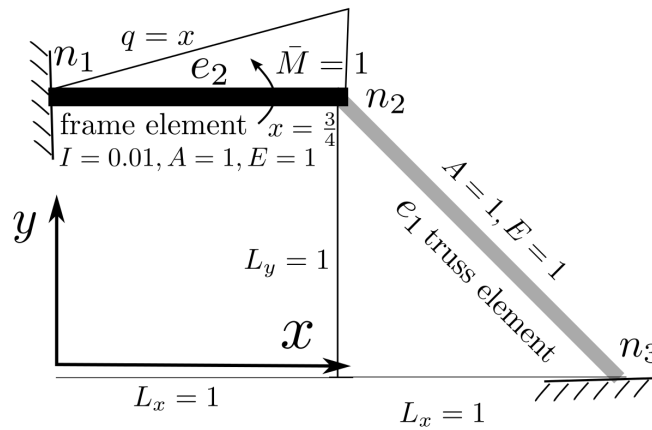

Figure 3: Frame and truss example.
4. **20 extra credit Points** For the truss shown in figure the prescribed dofs are:  $\bar{U}_1 = \bar{U}_2 = \bar{U}_4 = \bar{U}_5 = 0; \bar{U}_3 = \frac{1}{10}$ . For all four truss members  $E = 1, A = 1$ . Other information is provided in the figure 3.
- Form element force vectors and stiffness matrices. Note that for elements  $e_2$  and  $e_4$  two different coordinate systems are used at the two ends and an equation of the form (394) in section 2.3 should be employed. Also, the angle  $\theta$  in the figure is the angle that the bar makes with  $x$  axis and is different from  $\theta_1$  and  $\theta_2$  in the figure used for equation (394).